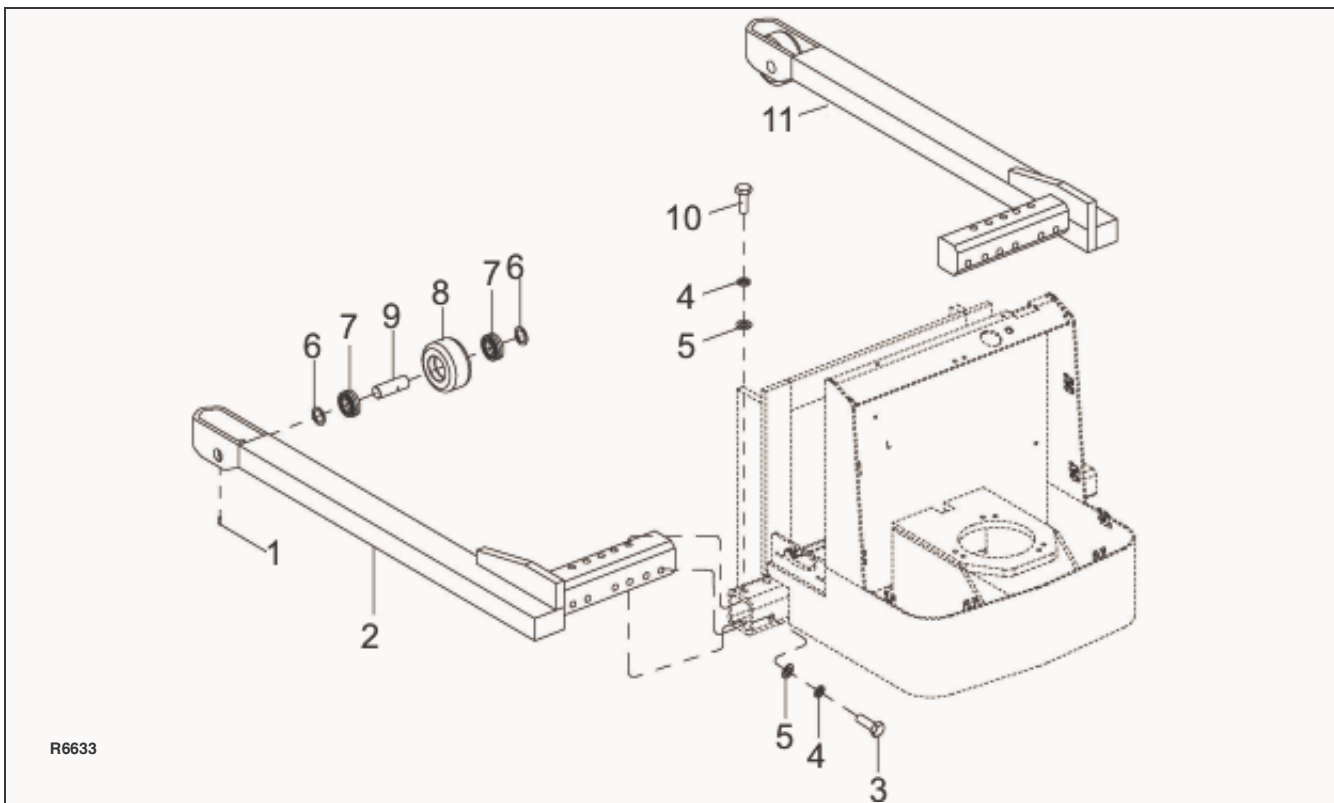

Figure 7-2 Adjustable Straddle
**NOTE:** When shaft (9, Figure 7-2) is removed, load wheel assembly (8) will drop free.
5. Remove screw (1) securing shaft (9) and remove shaft (9) and load wheel assembly (8).
6. Remove lock washers (6, Figure 7-2) and bearings (7) from wheels (8).
7. Inspect bearings (7) and replace if necessary.
8. Reassemble bearings (7) and lock washers (6) in wheels (8).
1. Position load wheel assembly (8, Figure 7-2) in straddle.
2. Install shaft (9) and secure with screw (1).